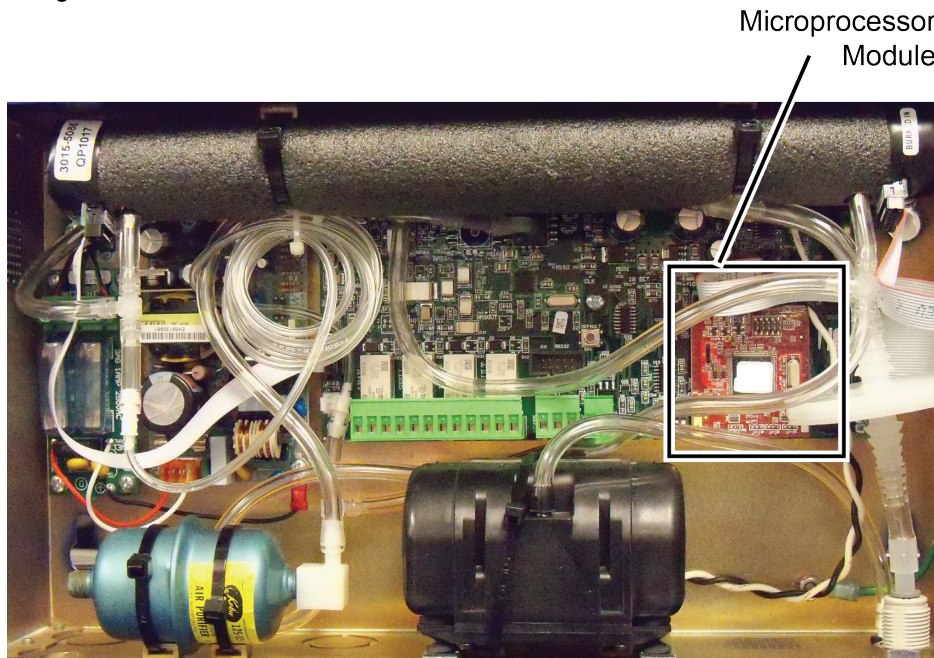
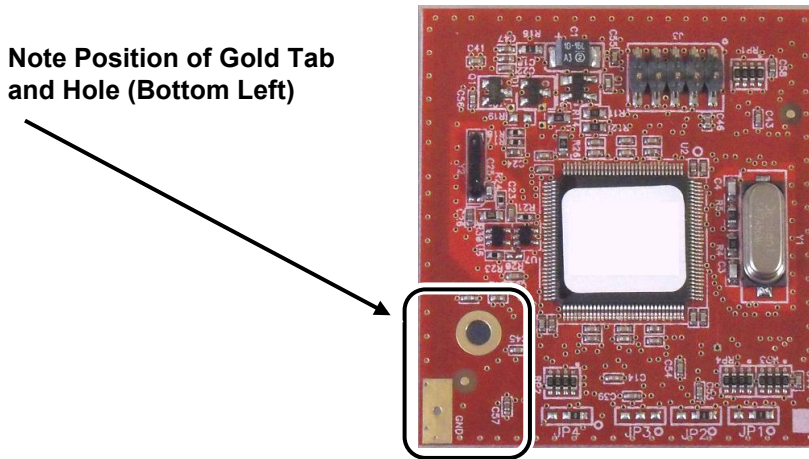

Figure 2. Location of the Microprocessor Module
Figure 3. Orientation of Microprocessor Module
- e. Locate the microprocessor module, socketed on the bottom right side of the main circuit board. Refer to Figure 2 and Figure 3.
- f. Note the orientation of the module, specifically the gold tab and hole oriented on the bottom left of the board. Refer to Figure 3.
- b. Attach the threaded standoff to the top of main board by routing one of the screws up through the underside of the main board and securing it to the standoff. Use Figure 3 as a guide.
- d. Orient the new microprocessor so the gold tab and hole are at the bottom left corner (refer to Figure 3).